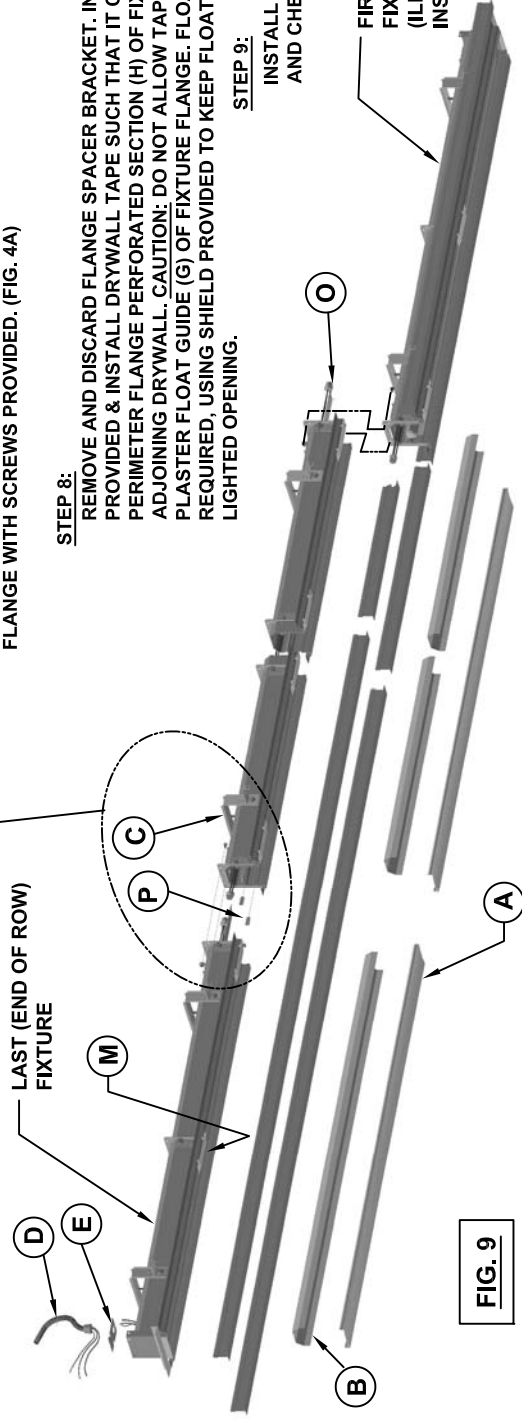

FIG. 9
REMOVE ACCESS PLATE (E) AT LEFT HAND END OF ROW AND PULL FIXTURE LEADS OUT THROUGH OPENING. REMOVE KNOCK-OUT FROM ACCESS PLATE AND INSTALL FLEXIBLE CONDUIT FEED (D) TO ACCESS PLATE. ATTACH GROUND WIRE TO STUD ON INSIDE OF ACCESS PLATE AND MAKE OTHER WIRE CONNECTIONS MAINTAINING COLOR CODING OF WIRES. PUSH EXCESS WIRE INTO FIXTURE HOUSING AND SECURE ACCESS PLATE TO HOUSING ENSURING THAT WIRES ARE NOT PINCHED BETWEEN FIXTURE AND ACCESS PLATE. (REF. FIG. 9)